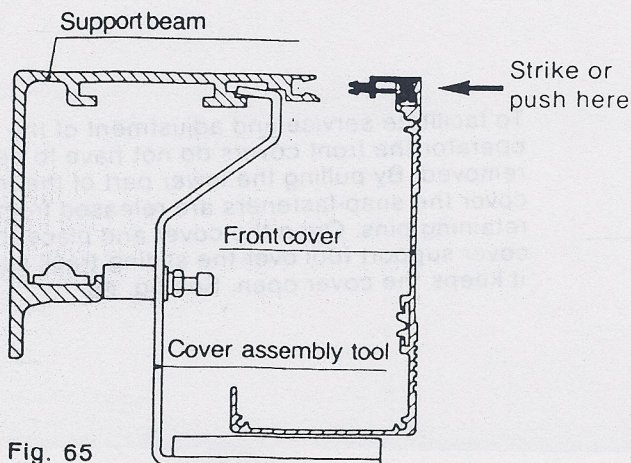

Fig. 65
- The front cover with plastic hinge is pushed or struck with a rubber hammer into correct position from the front. This installation is facilitated if a special cover assembly tool is used, see fig 65. The door carriers must be slid open in order to release/secure the cover latches.